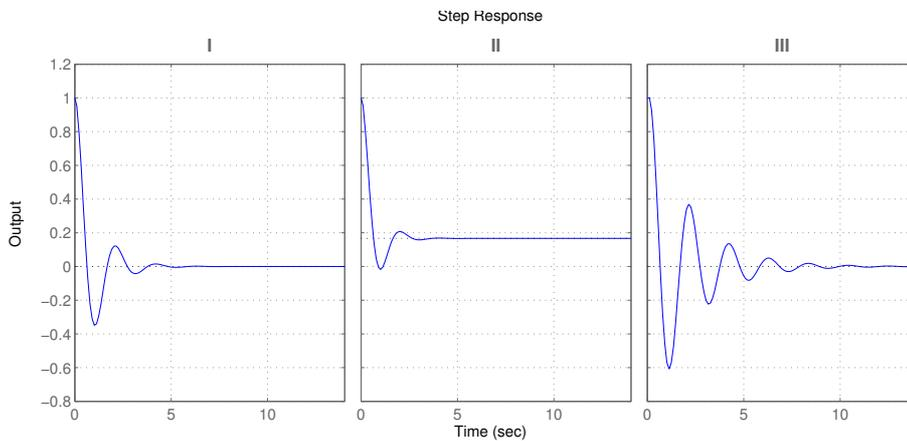

Figure 2.6 Step Load Disturbance Responses for Problem 2.5.
- b. Figure 2.6 shows responses to a step load disturbance, d , corresponding to the three different control designs $C_1 - C_3$. Combine the controllers $C_1 - C_3$ with the load step responses $I - III$. Motivate!